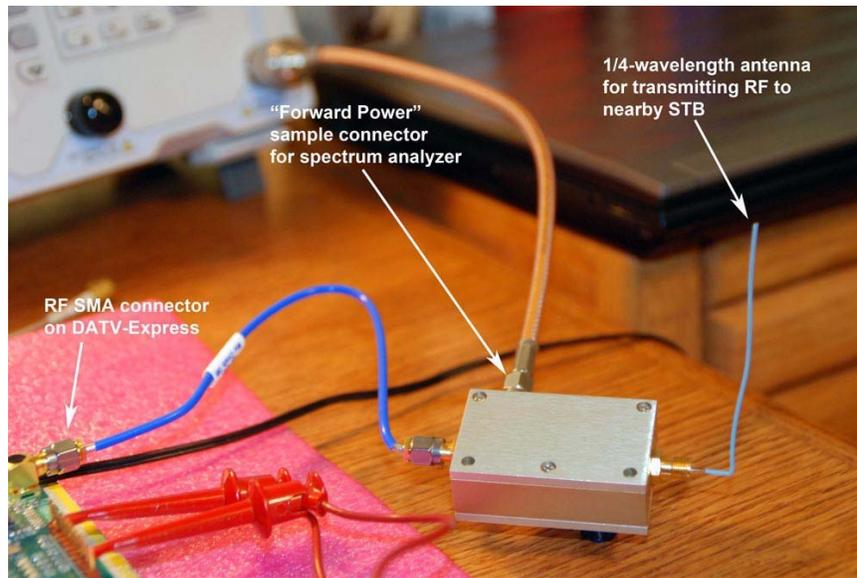

Figure 16 - a microwave “directional-coupler” is used to sample some RF energy for the Spectrum Analyzer (shown antenna is for 1.2 GHz band)
- Set-up (A) a nearby SetTopBox (STB) as a receiver for the protocol, and all the DVB settings that the receiver needs to know. Alternatively you could just look on a (B) spectrum analyzer or (C) using an RF “splitter” or microwave directional-coupler, sample the exciter RF output to the spectrum analyzer and connect the RF output to an antenna to be received by a nearby STB.
- If you will be using a nearby-STB or receiver to display the video, then connect another small bent piece of wire to act as a one-quarter-wave vertical antenna for the receiver (see **Figure 16**).